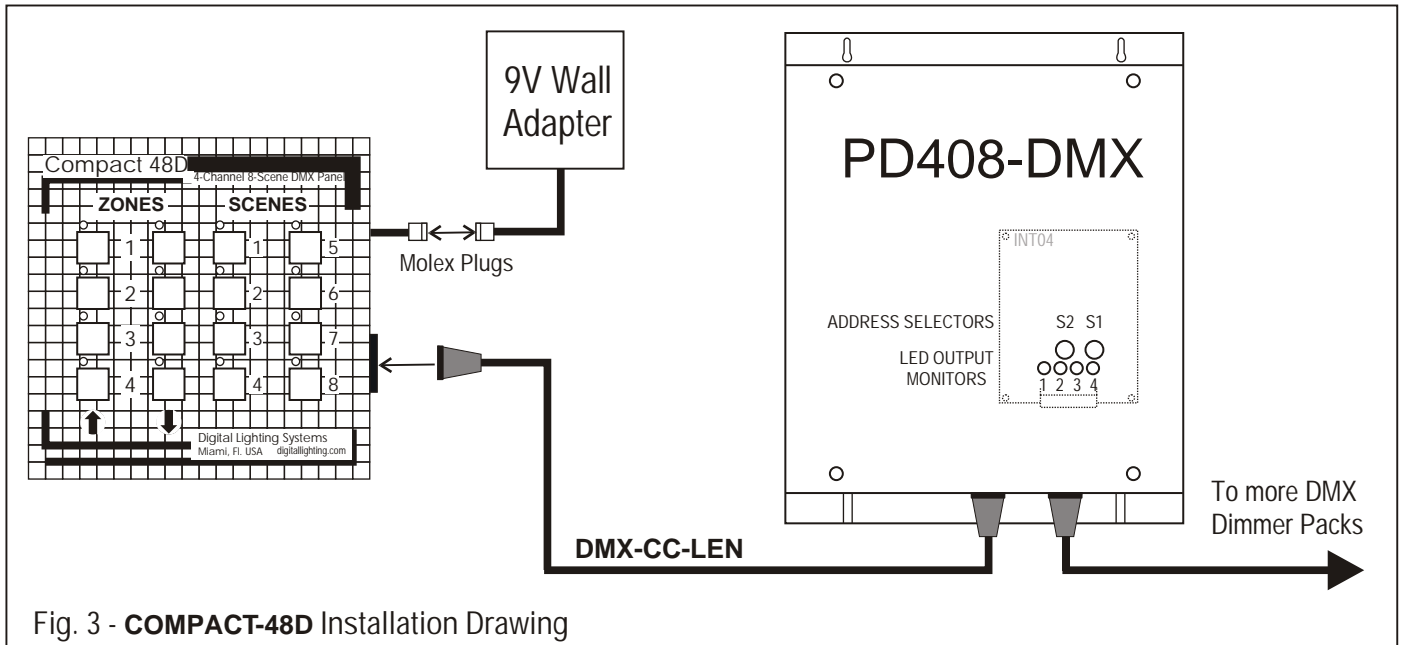
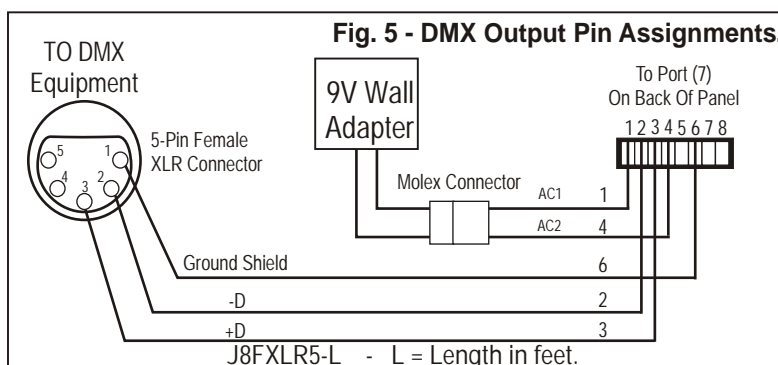

Fig. 3 - **COMPACT-48D** Installation Drawing
Fig. 5 - DMX Output Pin Assignments.
Installation Instructions (See Figs. 3, 4 & 5 below).
1. Install the **COMPACT-44/48D** in a convenient location. Fig. 3 shows an **COMPACT-48D-AE** which has a female XLR connector mounted on the side of its aluminium enclosure. **COMPACT-48D** models may be mounted in deep double-gang masonry boxes and have a pigtail for data connections (See Fig. 5 below).
Power and DMX pin assignments are shown in Fig. 5.